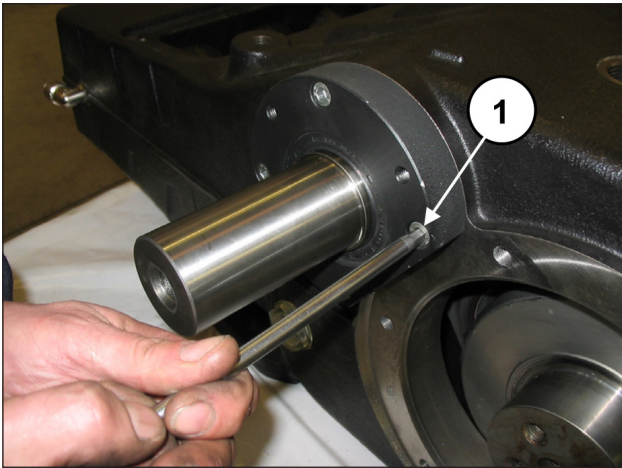
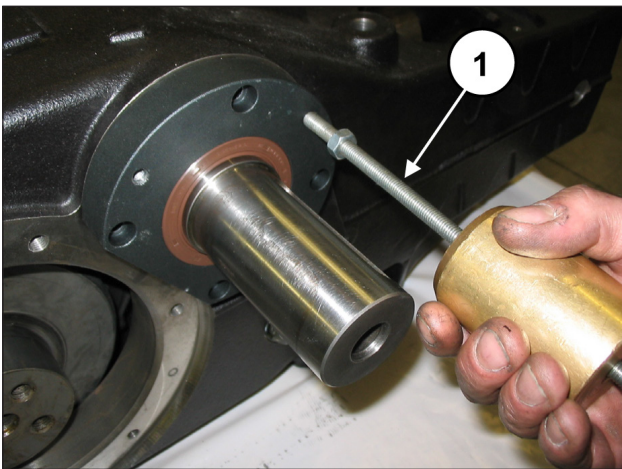

Fig. 26
Fig. 27
Unscrew the attachment screws of the left and right PTO bearing cover (pos. ①, Fig. 26) and take the two covers off the PTO shaft. To help with their removal, use 3 x M8 grub screws or screws (pos. ①, Fig. 27) as extractors.